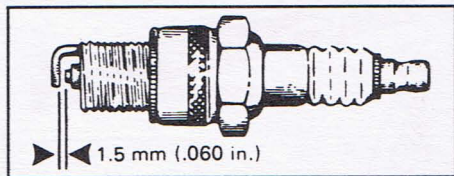

Figure 5 - Correct gap (L4)
6. For the 4-cylinder, gap the new plug to 1.5mm (.060 in.). See Figure 5. For the 6-cylinder, gap the new plug to 1.1mm (.045 in.). See Section 6 of this manual for correct replacement spark plug.